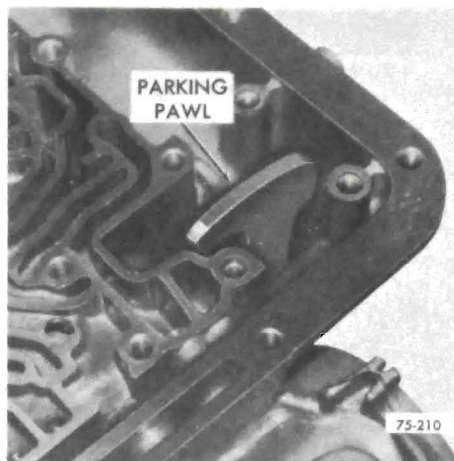

Figure 75-275
1. Install parking pawl, tooth toward the inside of case, into case. See Figure 75-275.